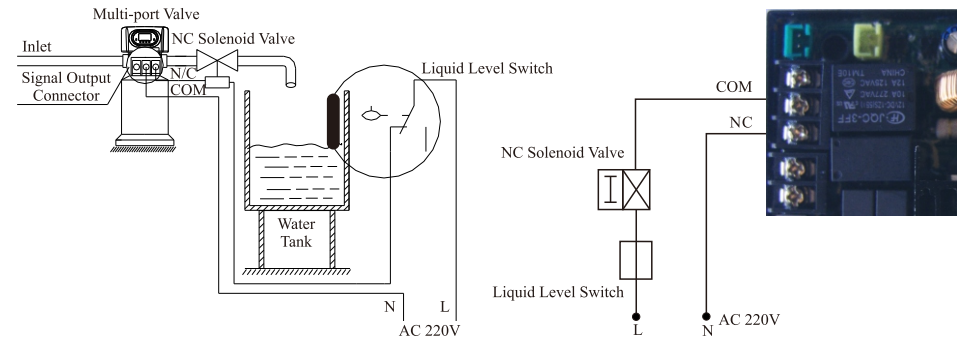

Figure 3-1 Wiring of Solenoid Valve on Outlet
①Solenoid valve on outlet controls water level in water tank.
**Instruction:** If system strictly requires no hard water flowing from outlet in regeneration cycle (Mainly for no hard water flows out when valve is switching or valve in backwash or brine drawing position), a solenoid valve could be installed on outlet, the wiring refers to Figure 3-1.